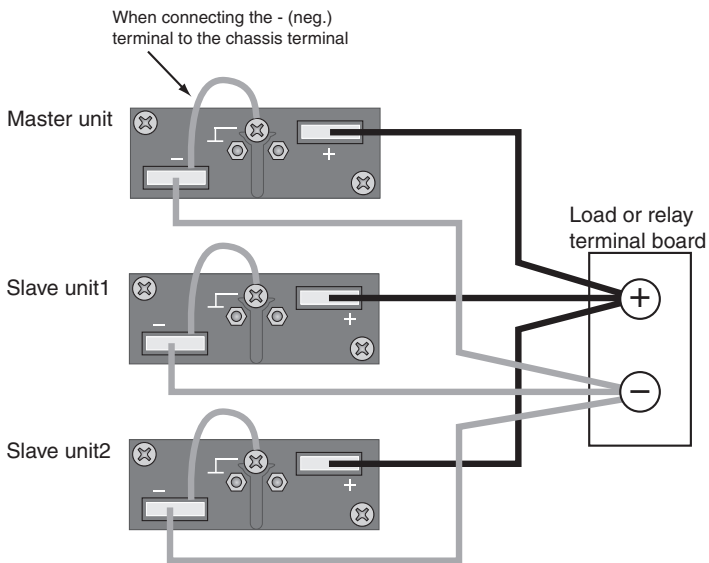

Fig.5-7 Load Connection for Parallel Operation
3. Connect the cables as shown in Fig.5-7.